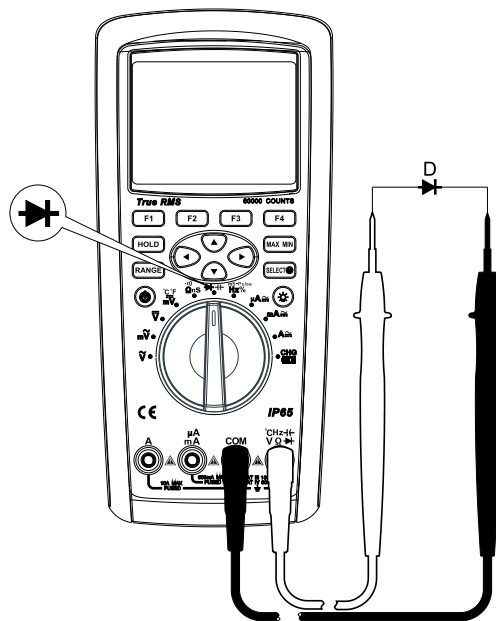

Figure 10
- 2) Set the rotary switch to the measurement  $\rightarrow$  with a diode symbol and the diode measuring mode  $\rightarrow$  with a diode symbol is default. Connect the test leads to both ends of the measured diode as shown in Figure 10. Directly read the approximate forward PN junction voltage of the measured diode on the display.